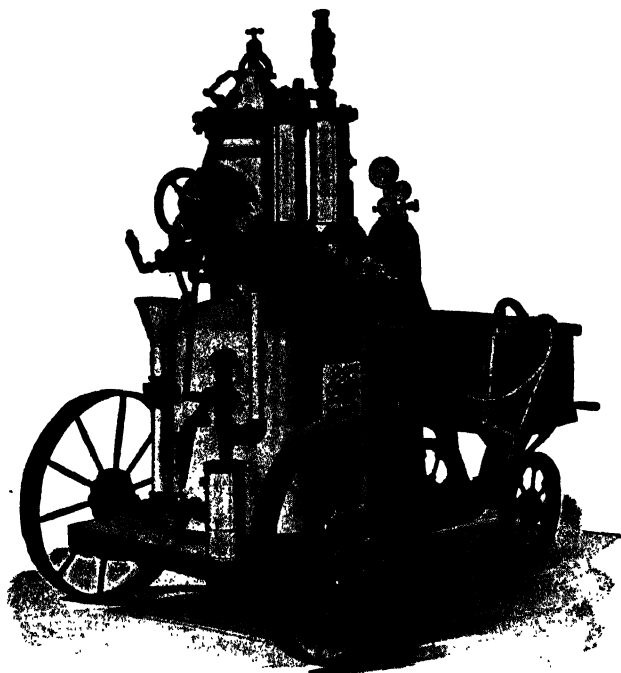

Fig. 5. Portable Pressure Acetylene Generator
*Pressure Generator.* The pressure generator, Fig. 5, delivers acetylene at a pressure of more than one pound. The carbide feed is controlled by the pressure in the generator. As the acetylene is drawn off and the pressure decreases, carbide is fed into the water;